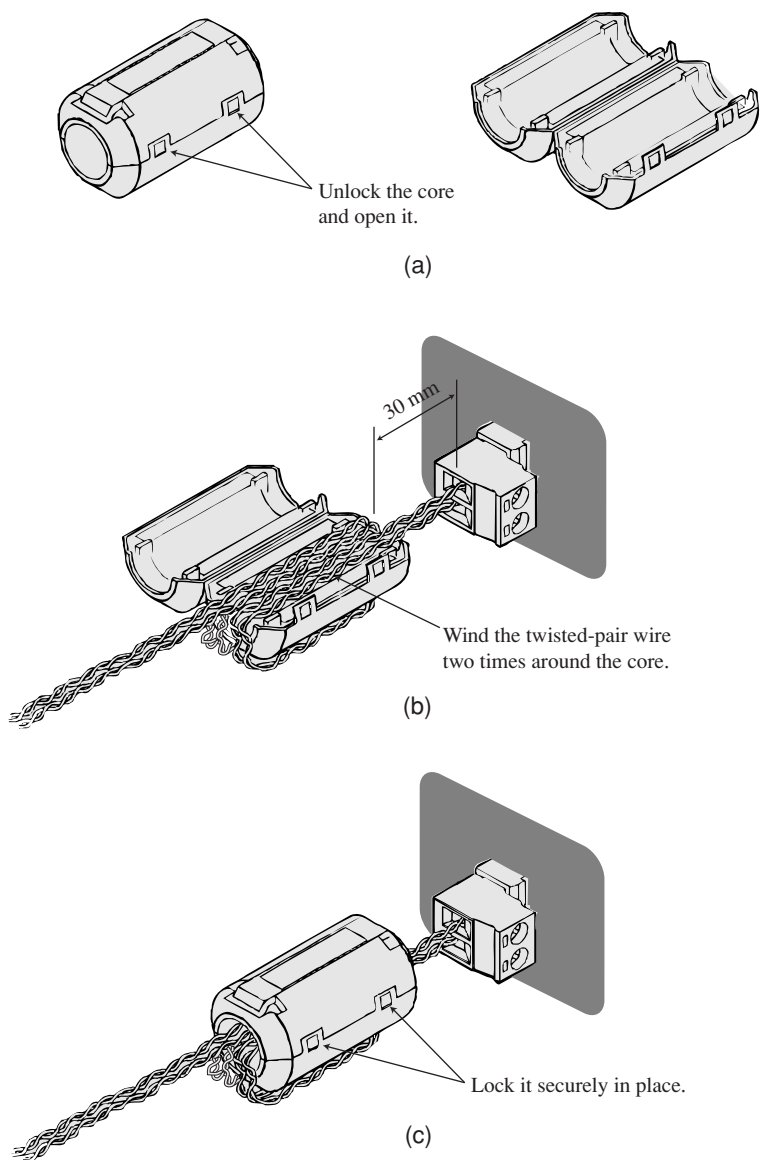

Fig. 4-15 Installing a TP-BUS core
4. As shown in Figs. 4-15 (b) and (c), insert the cable into the connector.
1. As shown in Fig. 4-15 (a), unlock the core and open it.
2. As shown in Fig. 4-15 (b), wind the twisted-pair wire once around a half core.
3. As shown in Fig. 4-15 (c), close the core. Avoid catching the wire on the core.